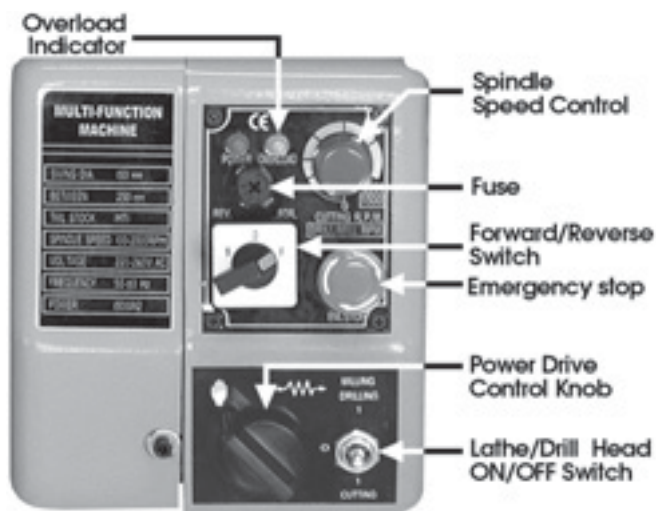

FIG.4
(ref. FIG.4)
B. STARTING UNDER NORMAL CONDITIONS (ref. FIG. 4)